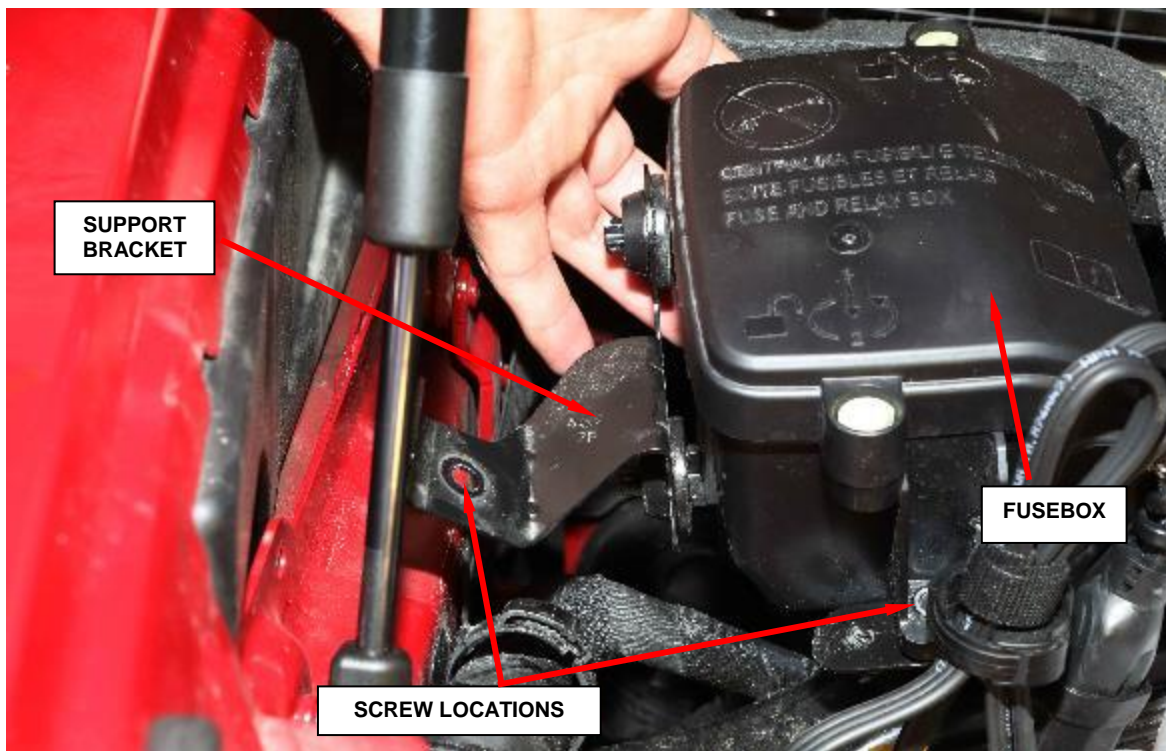

Figure 16 – Fusebox
1. Remove the screws attaching the fusebox and remove the support bracket (Figure 16).